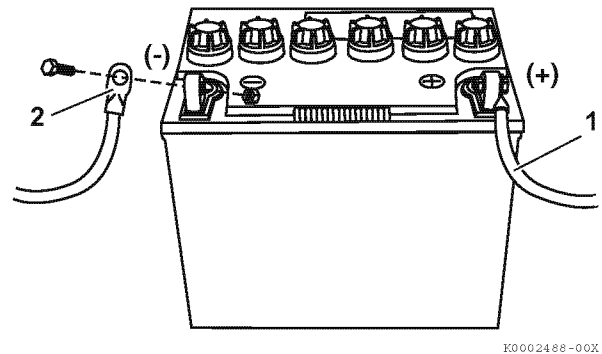

Figure 21
3. When connecting cables to battery connect the positive (+) cable (1, **Figure 21**) first.
4. Connect the negative (–) cable (2, **Figure 21**) to the battery last.